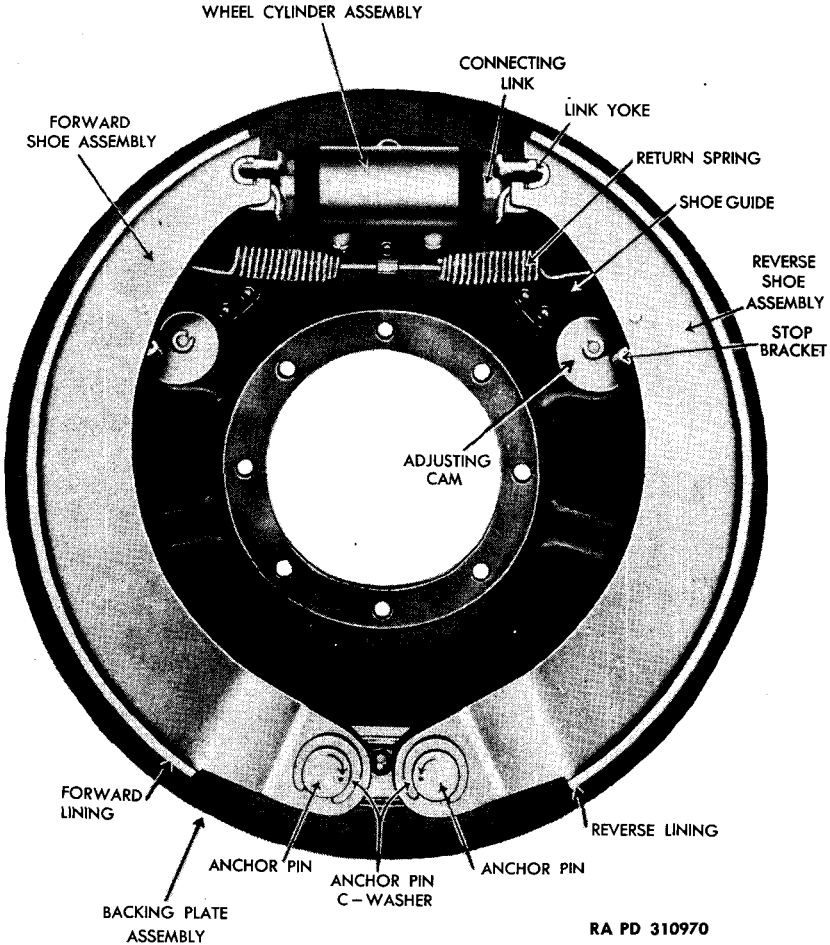

Figure 20 — Channel Section Brake Assembly
42. DESCRIPTION (fig. 20).
44. DISASSEMBLY (fig. 20).